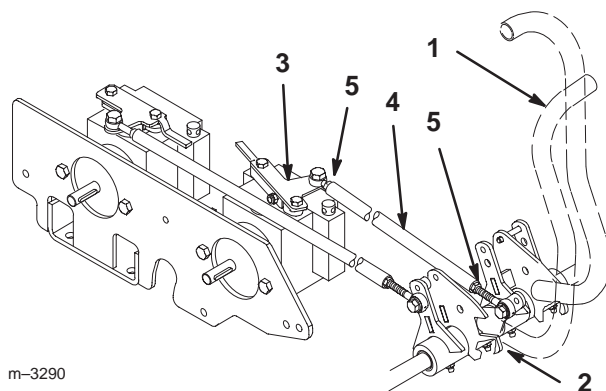

Figure 29
1. Loosen jam nuts on pump control rod (Fig. 29).
2. Push and firmly hold motion control lever against forward stop (Fig. 29).
3. Rotate pump control rod until pump control plate is in the full forward position (Fig. 29). Motion control lever will lift off forward stop.
4. Rotate control rod 1 turn, to lengthen rod, and tighten jam nuts (Fig. 29).